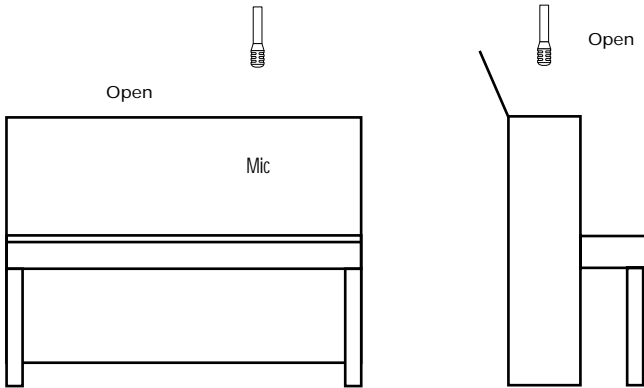

Figure 10
**Piano** – Open the lid and aim a condenser microphone (PG81) just over the top, above the treble strings (see figure 10).